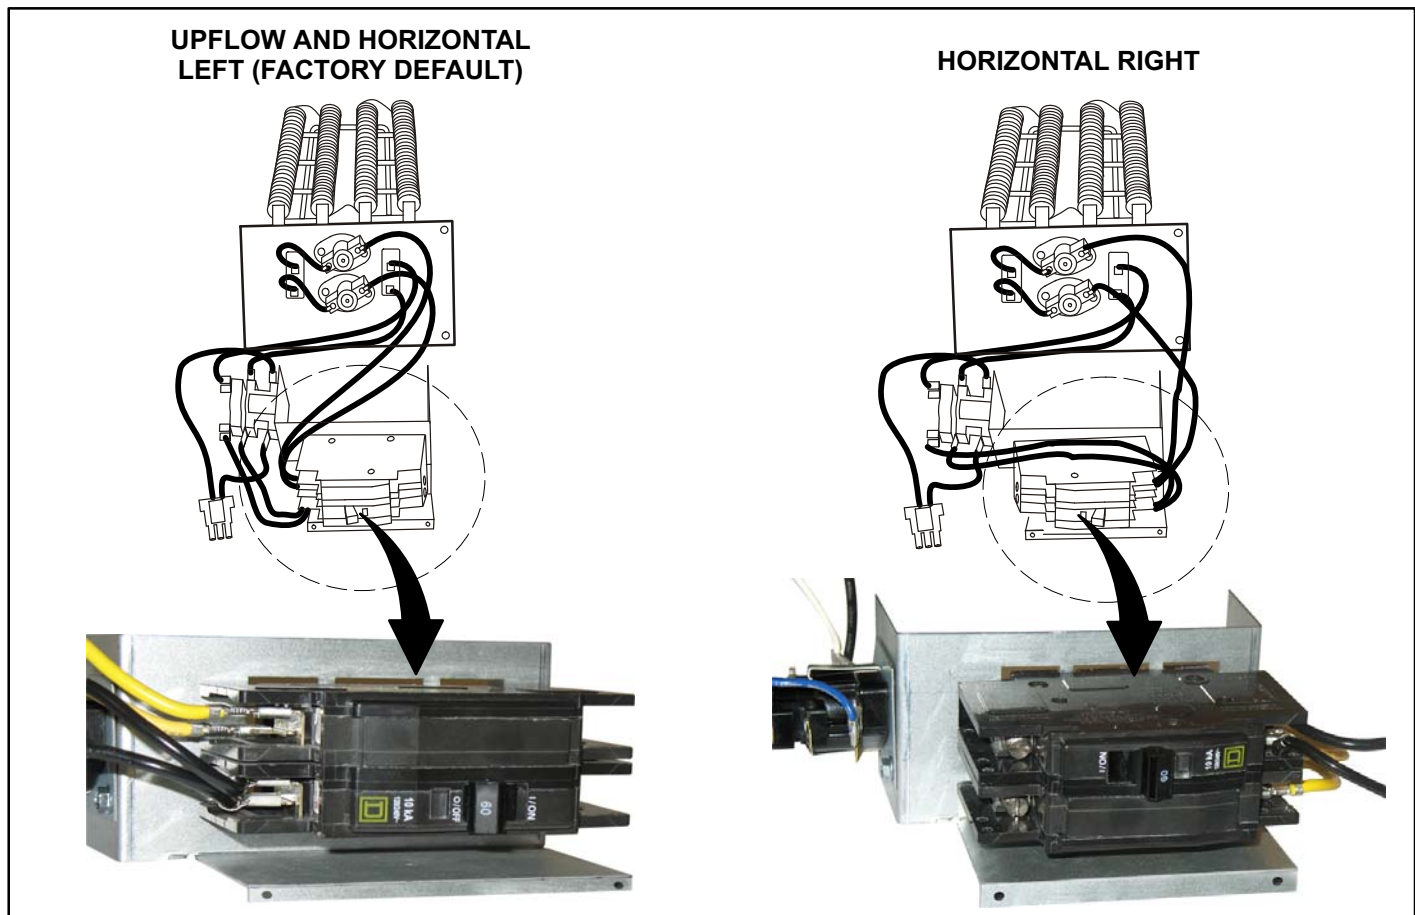

Figure 9. Circuit Breaker Orientation
require no change (see figure 9). To change the applicable circuit breakers orientation for right-hand discharge, proceed to step 2.
3. Flip the breaker so that the wires attached to the circuit breaker terminals are on the left side (see figure 9).